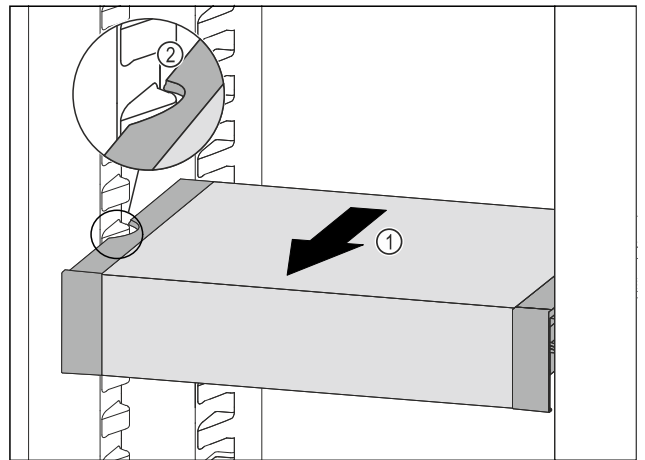

Fig. 131
- Pull VarioSafe forwards Fig. 131 (1) until the recesses in the side of the VarioSafe are at the level of the support rib in the fridge section. Fig. 131 (2)